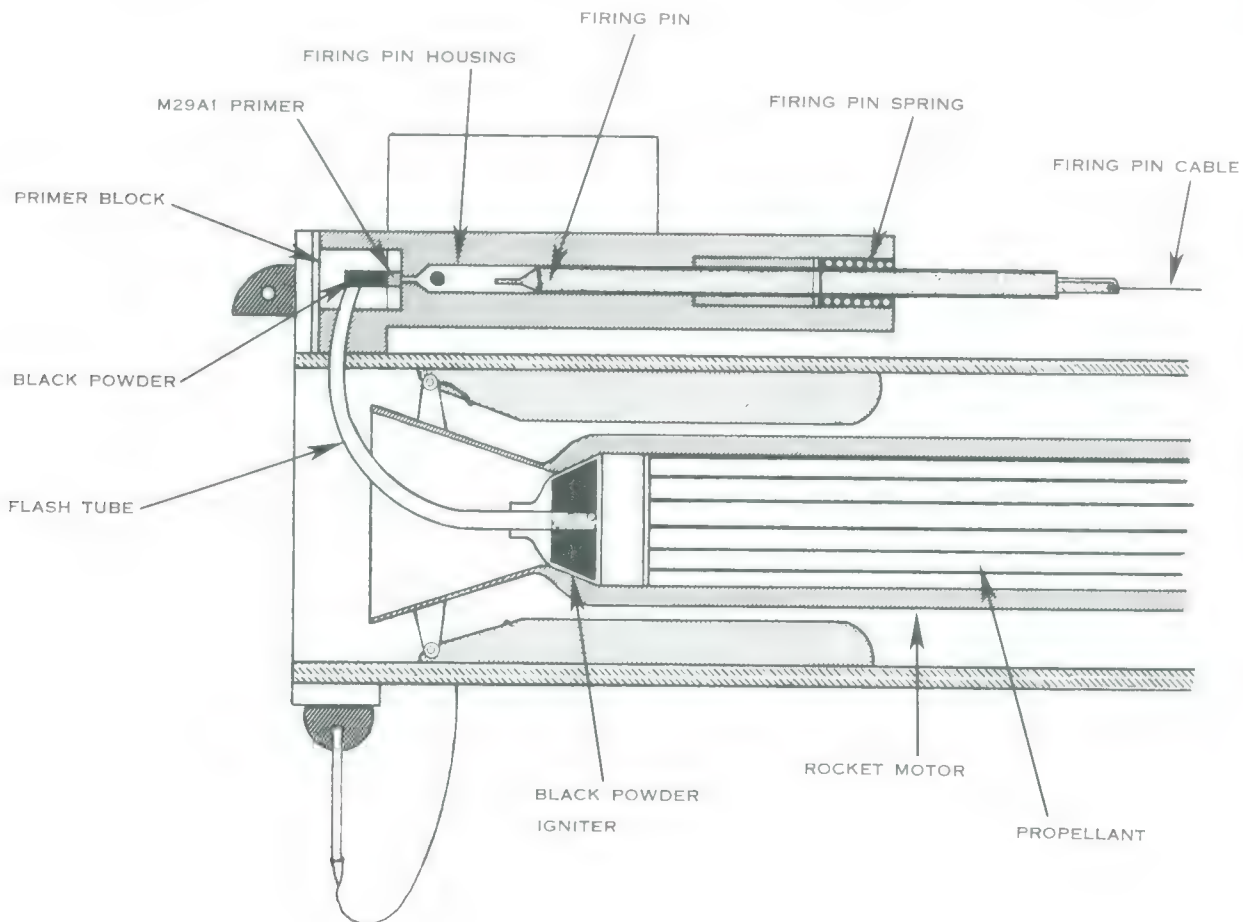

Figure 11. Rocket motor ignition system.
b. Rocket Motor Ignition System. The rocket motor ignition system (fig. 11) for the M72 is composed of the following elements: firing pin housing, firing pin and firing pin spring, M29A1 percussion primer, primer block with black powder flash charge, flash tube, and black powder igniter. The following sequence takes place as the unit is cocked and fired: The firing pin spring is compressed as the inner tube is extended and locked into position (fig. 11). When the trigger is actuated, the firing pin is released and strikes the center of the M29A1 primer with sufficient force to detonate the primer. The flash from the primer ignites the flash charge located directly behind the primer in the primer block. The ignited black powder generates a flash or flame which travels within the plastic flash tube to the igniter. The flame is dispersed within the